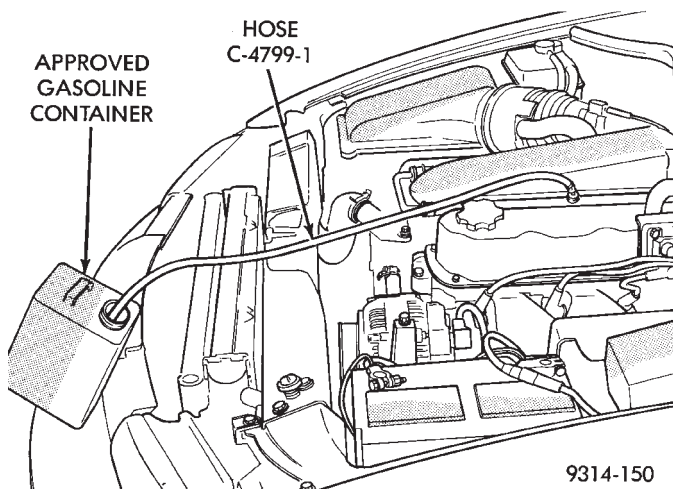

Fig. 3 Releasing Fuel Pressure—Typical
- (4) Place the open end of fuel pressure release hose, tool number C-4799-1, into an approved gasoline container. Connect the other end of hose C-4799-1 to the fuel pressure test port (Fig. 3). Fuel